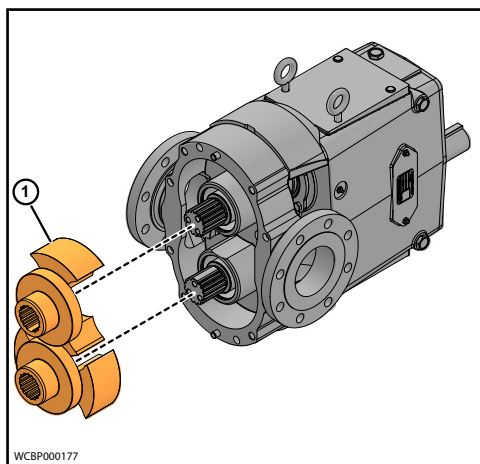

Figure 97 - Install Rotor
1. Install the rotors (1) onto the shaft splines, as shown in Figure 97.